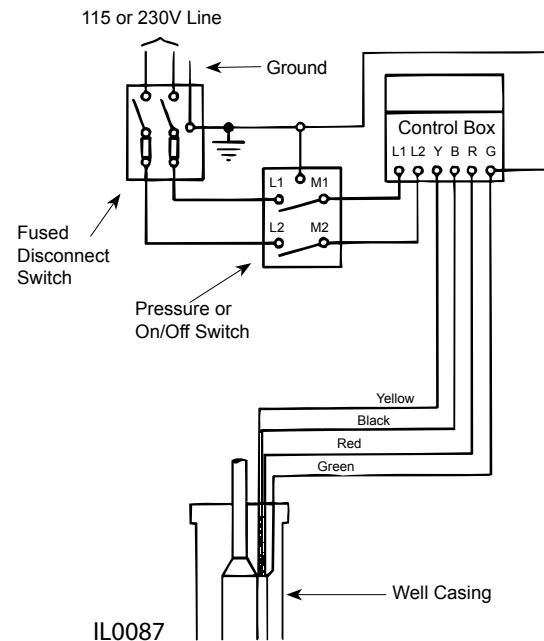

Figure 17 — 3-Wire Quick Disconnect Box
1. Run submersible cable from pump to control box and connect according to color code. Two lines are connected to L1 and L2 of control box and attached to the load terminals of the pressure switch. Power line is run from electrical disconnect box and connected to the line terminals of the pressure switch (See Figure 17).